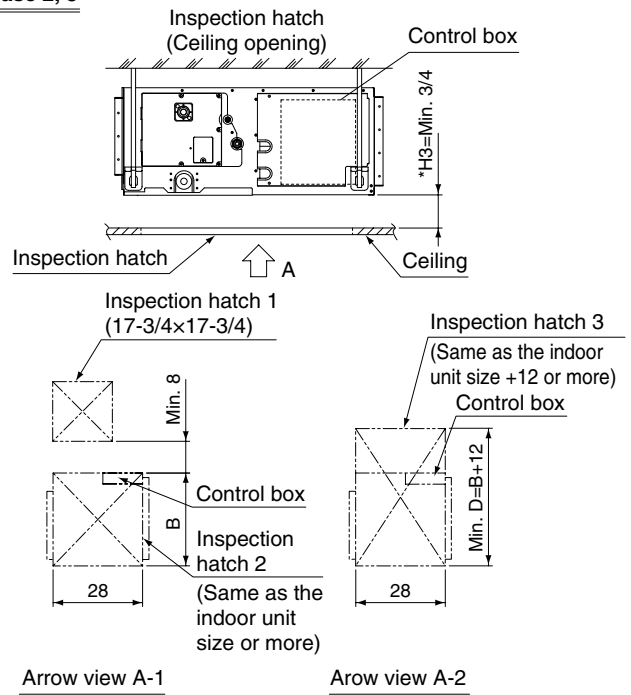

Fig. 2-3
2. Inspection hatch 1 (17-3/4 × 17-3/4) for the control box and inspection hatch 2 for the lower part of the product (see arrow view A-1). **(Refer to Fig. 2-3)**
3. Inspection hatch 3 for the lower part of the product and the lower part of the control box (see arrow view A-2). **(Refer to Fig. 2-3)**